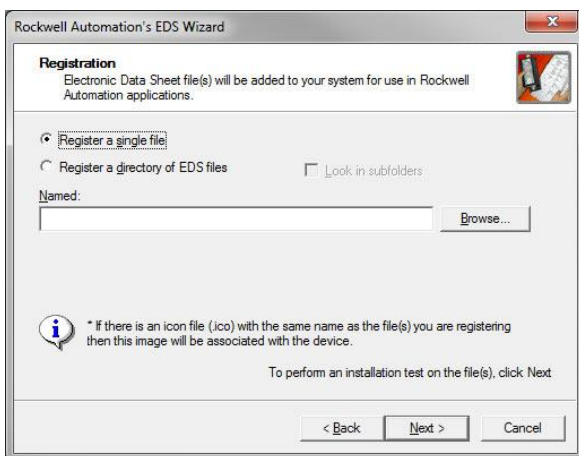

Figure 30: EDS Registration
- 4) The "Registration" dialog will appear. Refer to Figure 30.